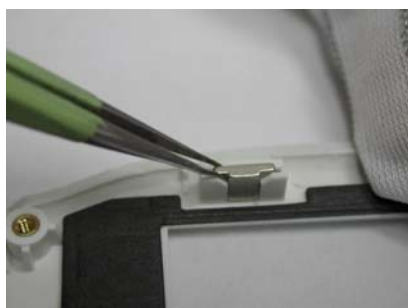

Fig.12.1
- Check that the magnet (Fig.12.1.) is not mechanical damaged, dirty or oxidized. Replace the Upper inside Cover Assy if necessary.